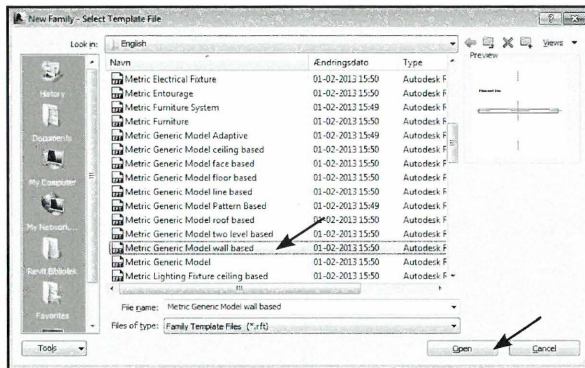

Fig. 08.71. Find Metric Generic Model - Wall Based.
- Find Metric Generic Model Wall Based på listen (Fig. 08.71).